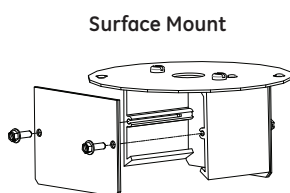

Figure 2
1. Remove accessory cover plate (see figure 2).